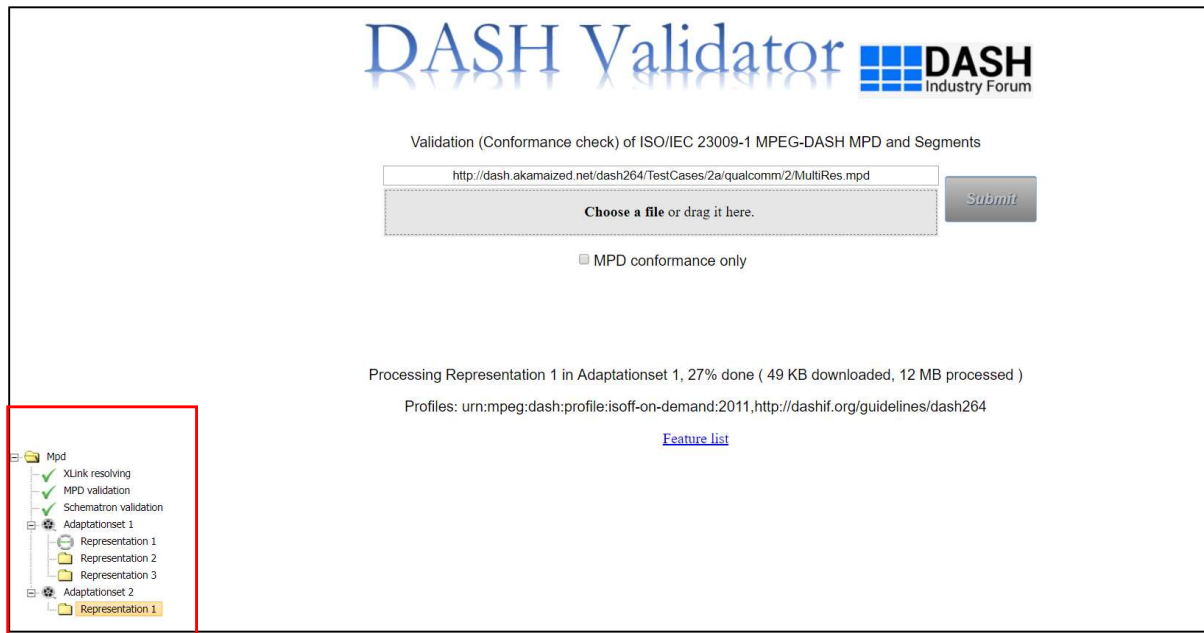

Figure 8 Results getting continuously updated
5. The results of the conformance testing get updated continuously after the 'Submit' button is pressed. Intermediate results are shown as in screenshot in Figure 8.